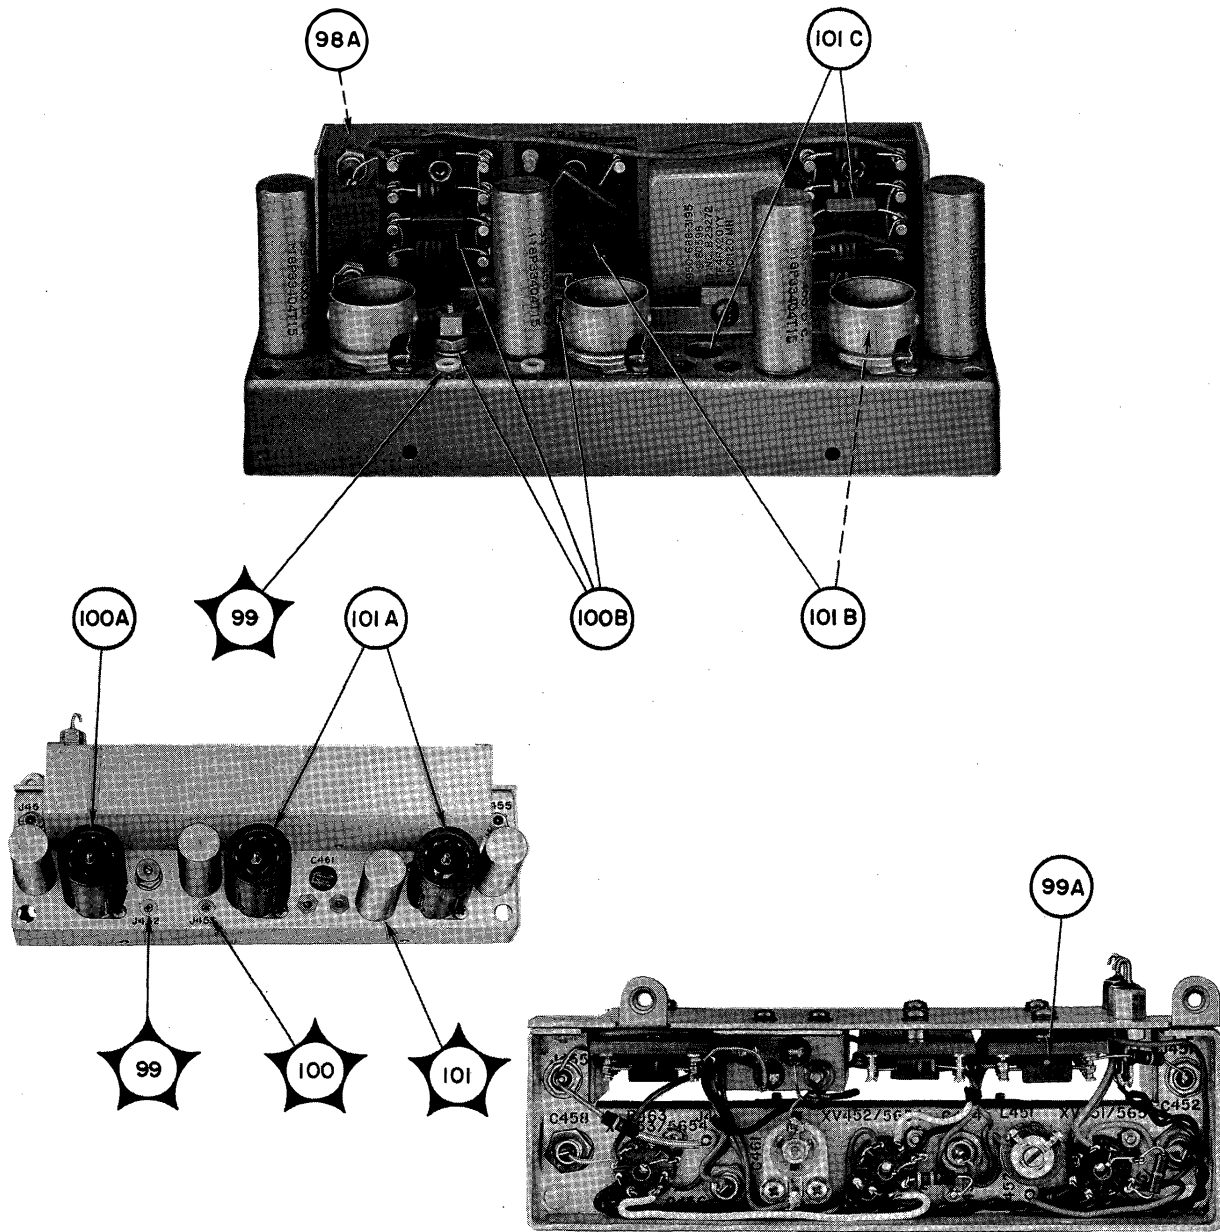

Figure 5-59. Frequency Divider, Location of Test Points
*f.* FREQUENCY DIVIDER TROUBLE-SHOOTING CHART.—Table 5-15 lists the steps for troubleshooting the frequency divider. Perform them in the order given. Figure 5-57 is the functional schematic diagram of the frequency divider, and figure 5-59 shows the location of test points. Table 5-66 gives voltage and resistance values at the socket pins of tubes V451, V452, and V453. To reach these, take the frequency divider subassembly out of the drawer and remove the cover plate from the bottom. Refer to Section 6 for removal instructions.